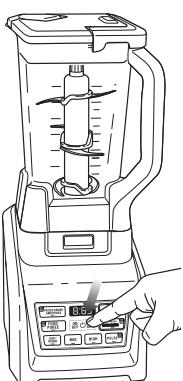

Fig. 8
- 13 When you have reached your desired consistency, stop the appliance by pressing the power button (□) and wait for the blade to stop turning. (**Fig. 8**)